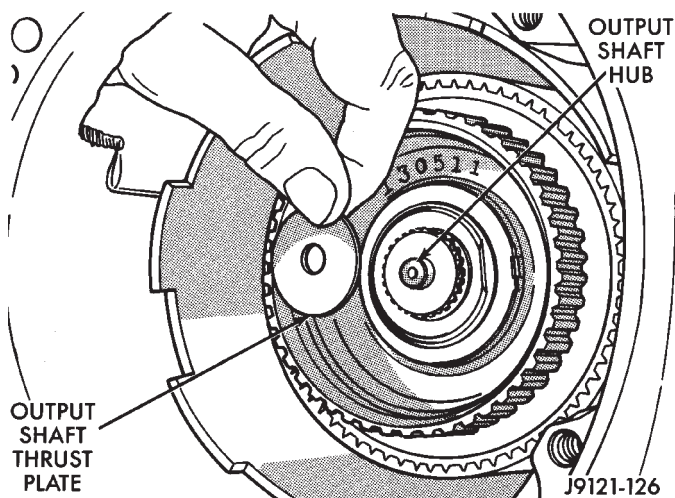

Fig. 16 Removing/Installing Output Shaft Thrust Plate
(25) Remove output shaft thrust washer from output shaft (or from rear clutch hub).
(26) Remove output shaft thrust plate from output shaft hub (Fig. 16).